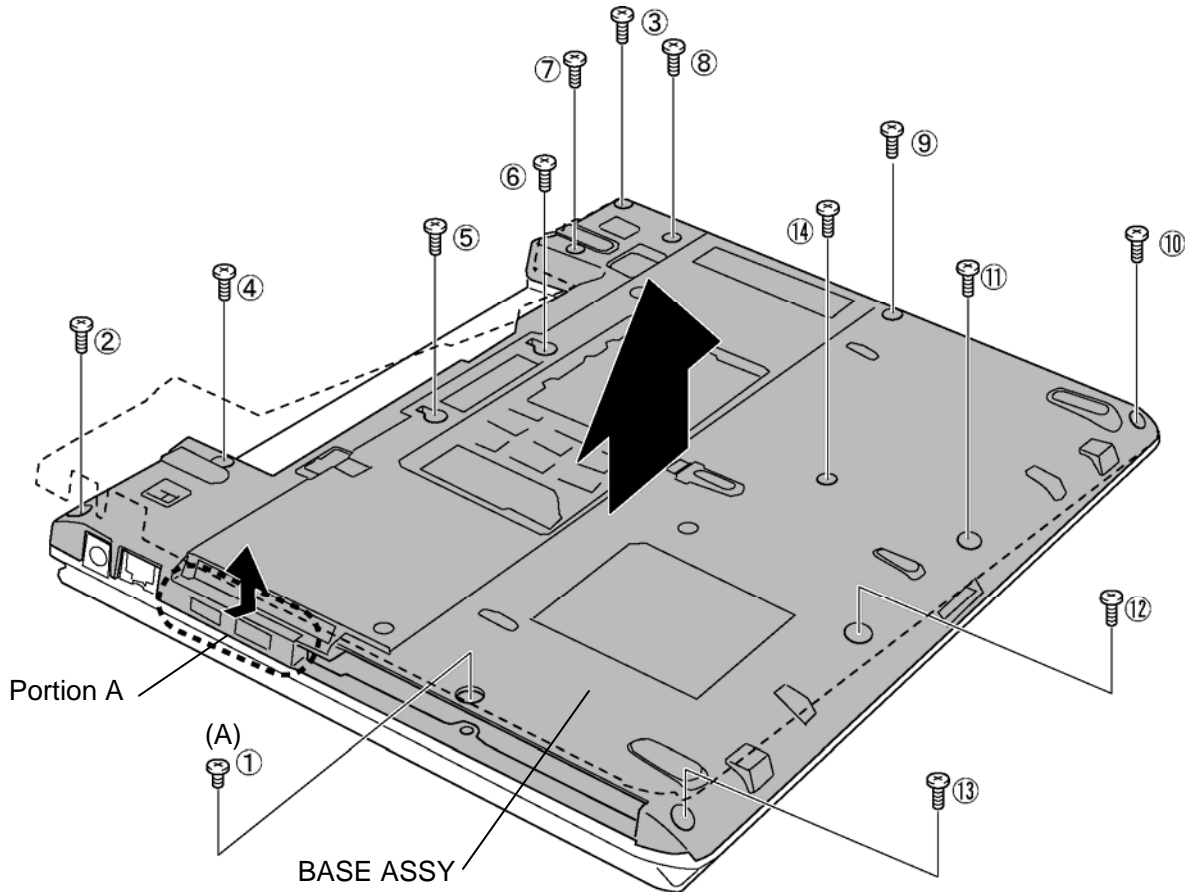

Figure 4-15 Removing the BASE ASSY (3)
1. Set the **BASE ASSY** in place while setting the RGB connector side first. (See figure 4-15).
CAUTION: Drive the fourteen screws in the order shown in the Figure 4-15.